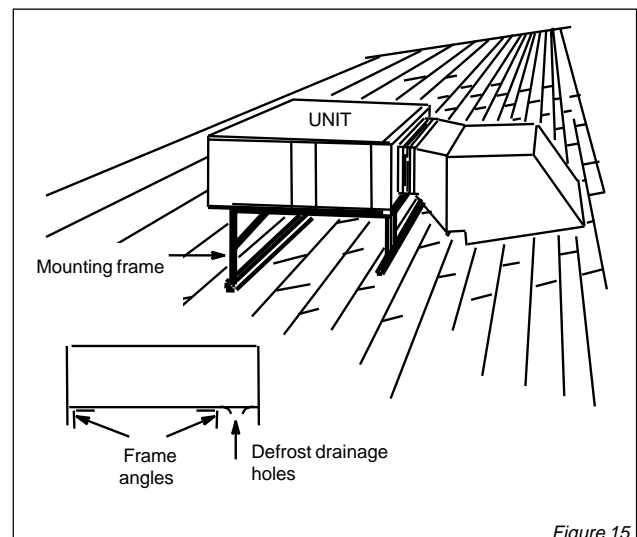

Figure 15
5. Cut insulation away from overhang on bottom of units. See shaded areas in figure 15.